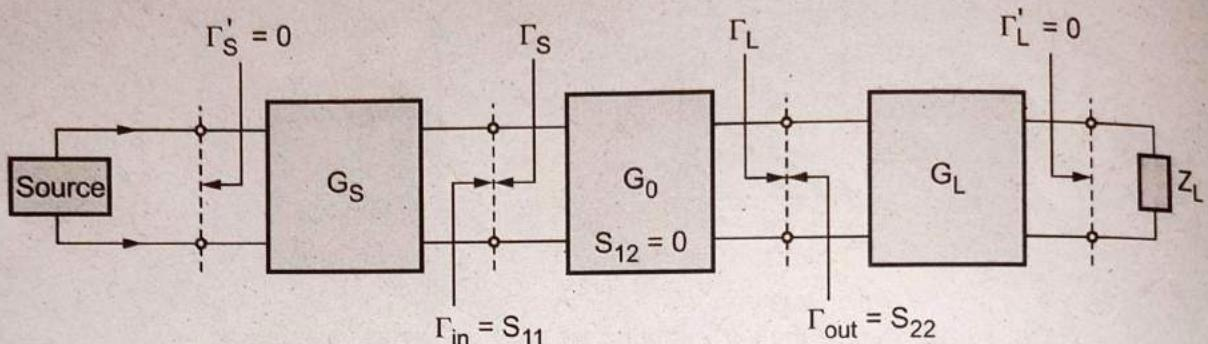

Fig. 5.6.15 Unilateral power gain system
- The corresponding circuit of unilateral power gain system is shown in Fig. 5.6.15.